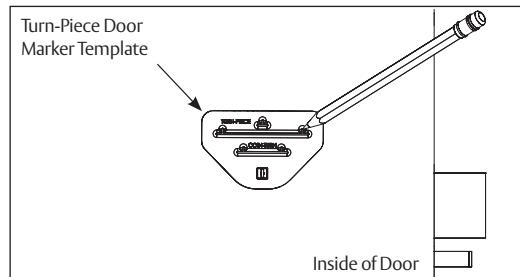

Figure 11
- Mark three holes for turn-piece. (Figure 11)
- Slide cylinder(s) through spring, spacer and collar, threading into lockbody until cylinder face is flush with collar. (Figure 11)